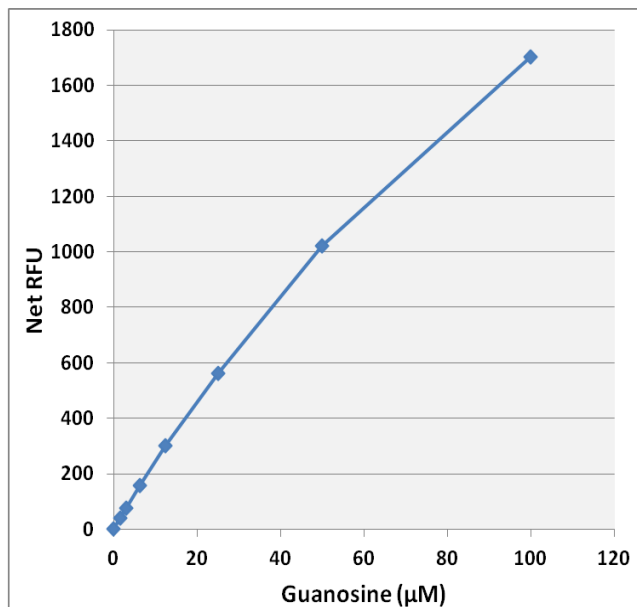

Figure 2: Guanosine Standard Curve.
3. Graph the standard curve (see Figure 2).